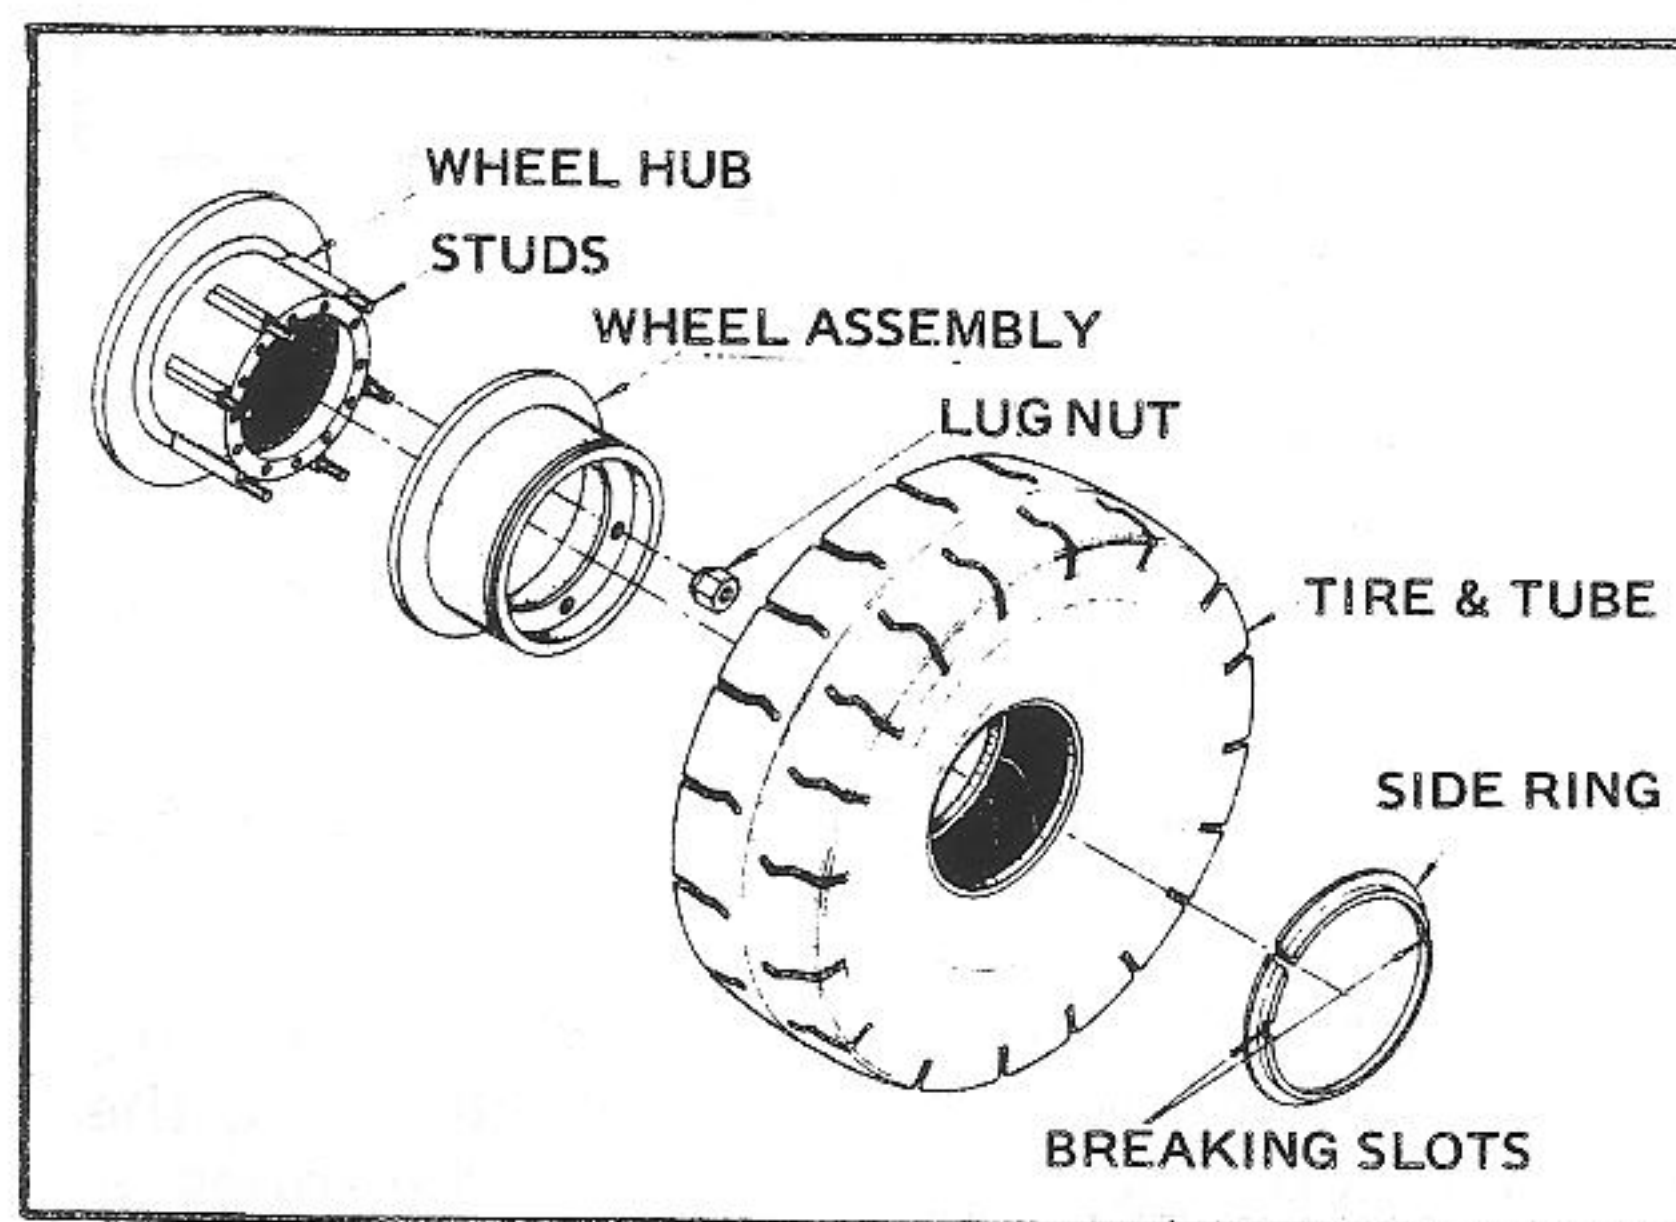

FIGURE 5-9. WHEEL AND TIRE INSTALLATION
A. Description (See Figure 5-9)
D. Wheel Installation (See Figure 5-9)
(1) Lift the tire and align the wheel holes with